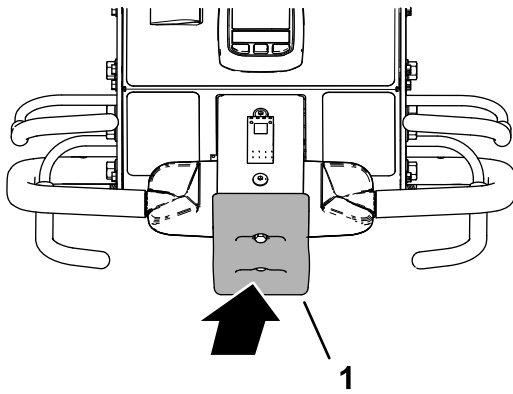

Figure 36
2. While holding the operator-presence bail and the traction control, contact the bump-stop switch (Figure 36).